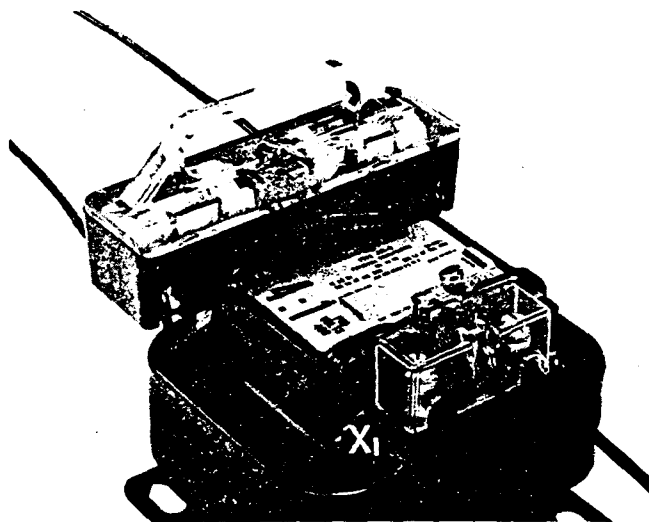

Figure 5
4. Connect the primary leads through the lead ports in the fuse tub, then insert the fuse cover with the fuses. See Fig. 5. This assembly can then be sealed by using